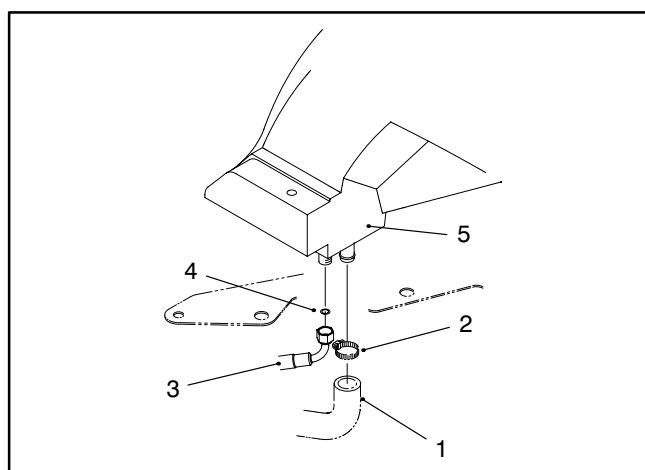

Figure 22
B. Disconnect hydraulic hose to power steering from the hydraulic reservoir. Make sure hose to gear pump is disconnected at the pump (Fig. 22).
10. Install air cleaner as follows (Fig. 22):